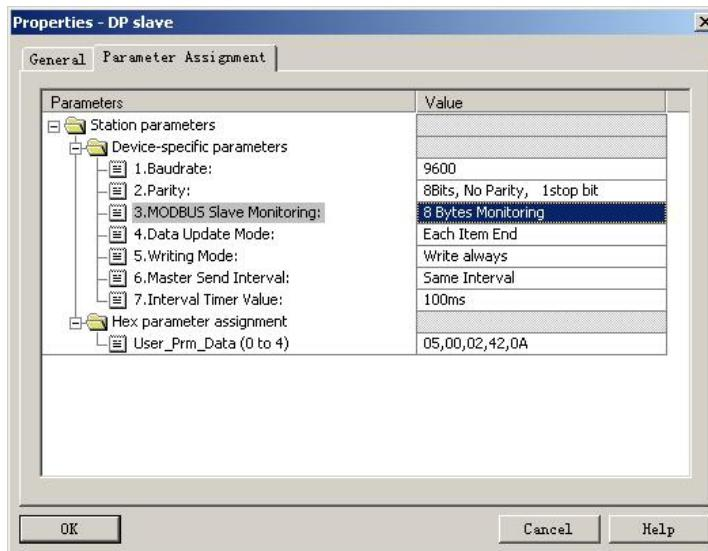

Figure 37 Configure User Parameters of “3.MODBUS Slave Monitoring” Device
- a) Configure user parameters of “3.MODBUS Slave Monitoring” device, shown in Figure 37:
As shown in Figure 37, to use xxx bits Modbus slave monitoring module, corresponding Modbus slave monitoring parameters shall be configured in device user parameters. Based on previous 6 examples, here to configure "8 Bits Monitoring", corresponding "8Bits MODBUS Slaves Status" module shall be used.